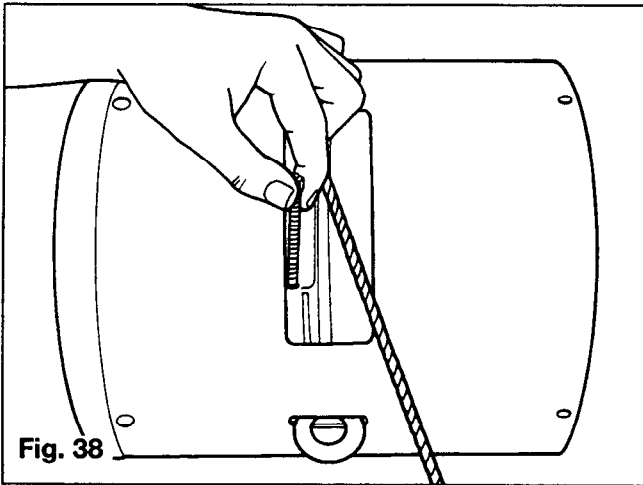

Fig. 38
8. Push the wire rope into the unit until the swaged fitting is exposed. Pull on the swaged fitting to remove wire rope (Figure 38). On units with chain remove anchor bolt and chain.